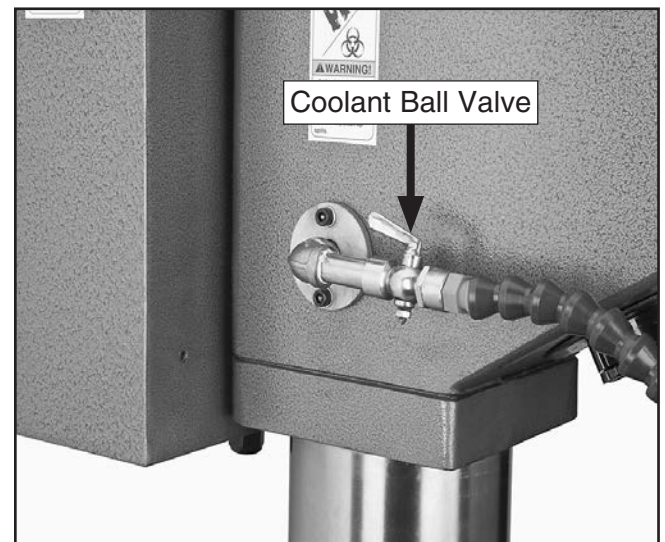

Figure 25. Coolant ball valve.
4. Regulate the coolant flow to the contact area using the coolant ball valve shown in **Figure 25**.